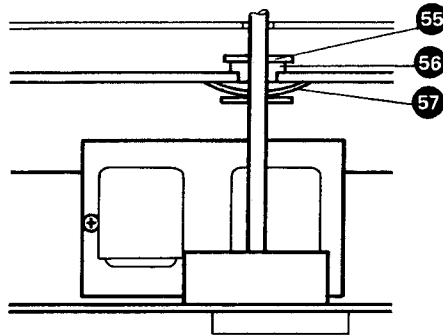

Fig. 3.22.-7
- Remove Phillips screw (53) (fig. 3.22. - 6) from the interconnecting board (A 25).
- Remove the 2 spring clips (55) (fig. 3.22. - 7) from the front chassis.